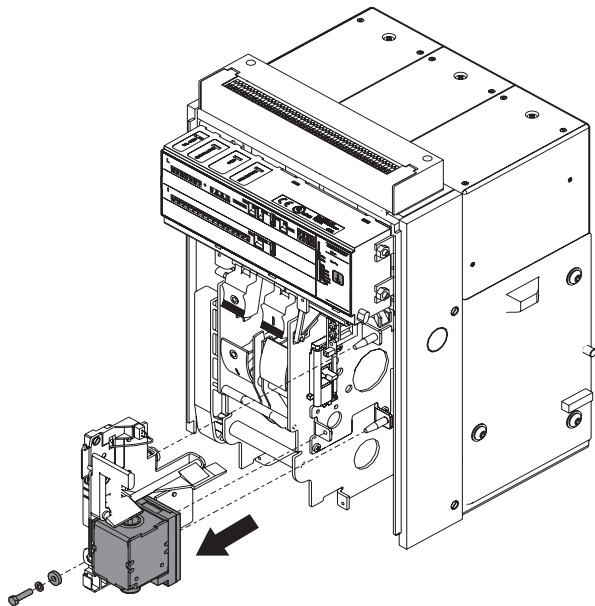

Fig. 45
- 6.1) Check the arc-breaking gaps (distance A fig 45).